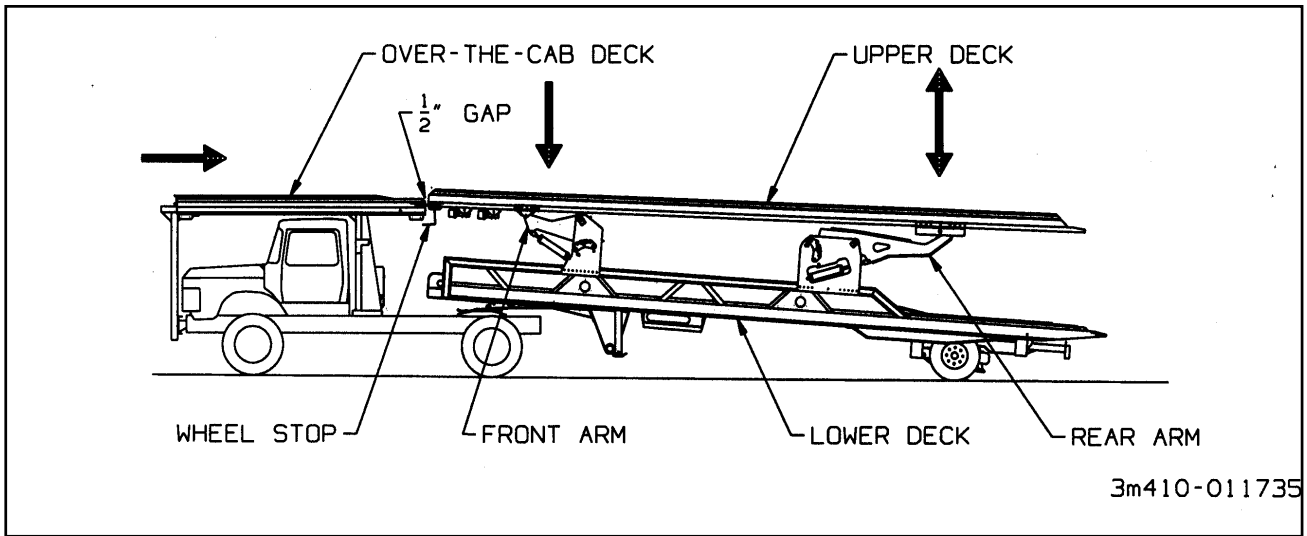

Figure 3-7 Lining Up the Over-the-Cab Deck
- 3-14.1** Unlock and lower the front arm as far down as it will go. (See **Figure 3-7**).